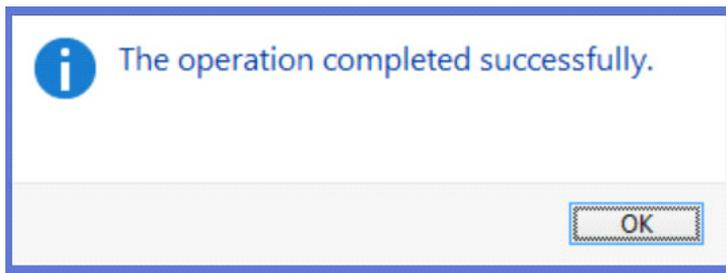

Figure 5. RAA489000 Successful Driver Installation
3. The message in Figure 5 appears when the driver is successfully installed.